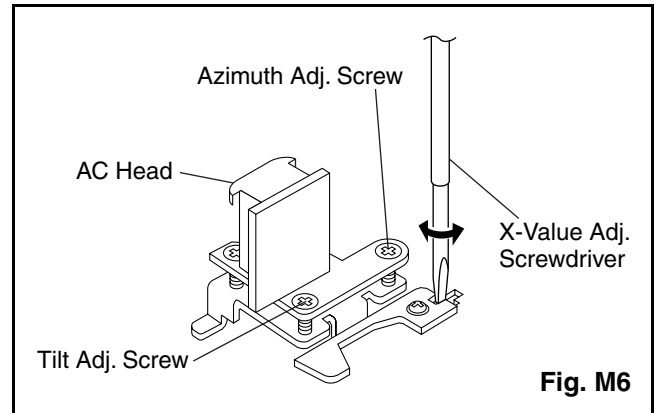

Fig. M6
4. If creasing or snaking is apparent, adjust the Tilt Adj. Screw of the AC Head. (Fig. M6)
4. Use the X-Value Adj. Screwdriver so that the PB FM signal at TP301 (C-PB) is maximum. (Fig. M6)
- Adjust Azimuth Adj. Screw so that the output level on the AC Voltmeter or the waveform on the oscilloscope is at maximum. (Fig. M6)